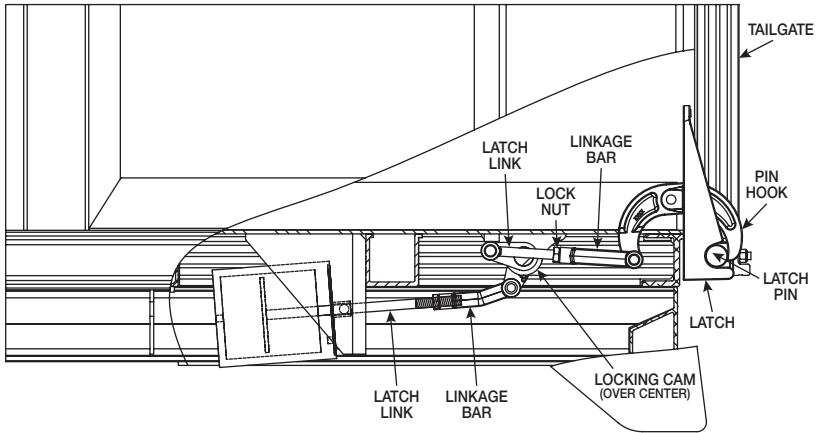

Figure 2: Tailgate Latch Adjustment
- Open and close the tailgate latches to check both latches for proper operation. The tailgate latch pins should be clamped firmly and the small end of each locking cam, Figure 2, must snap into position against the cam stop block. If either latch pin is not tightly clamped, or the locking cam does not lock above center, adjust the tailgate latch according to the following procedure.